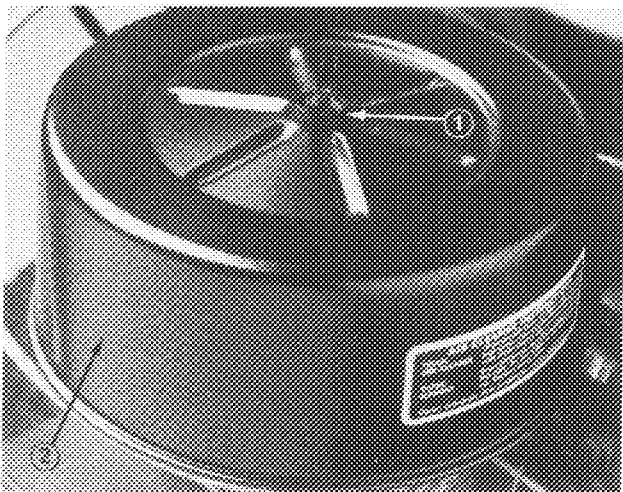

Figure 18
1. Remove wing nut and cover (Fig. 18).